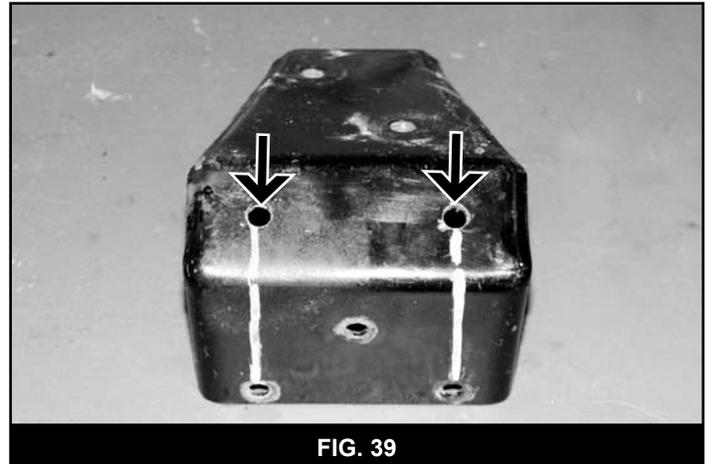

FIG. 39
- c. Mark for new holes to be drilled in the angled section of the bracket as shown (Fig. 39). Drill two